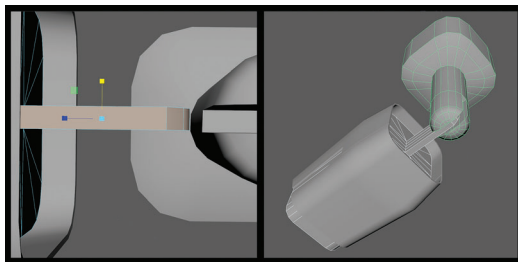

FIGURE 1.31 Scaling the faces of the back of the camera to fit the mounting base.
Step 28: Shrink and attach the camera to the base. Grab the faces of the back arm of the camera body and scale it up or down to make the size fit with the opening of the base. Move the base to attach the arm with the socket (Figure 1.31).